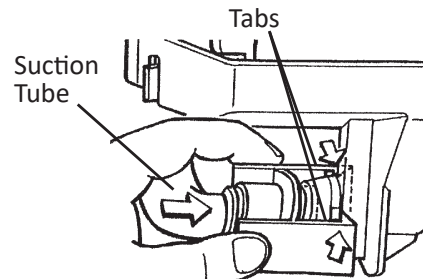

Fig. 35
- 7) Reconnect the suction tube as illustrated. See Fig. 35. Make sure the tabs lock into place; a loose fitting may cause a water leak.